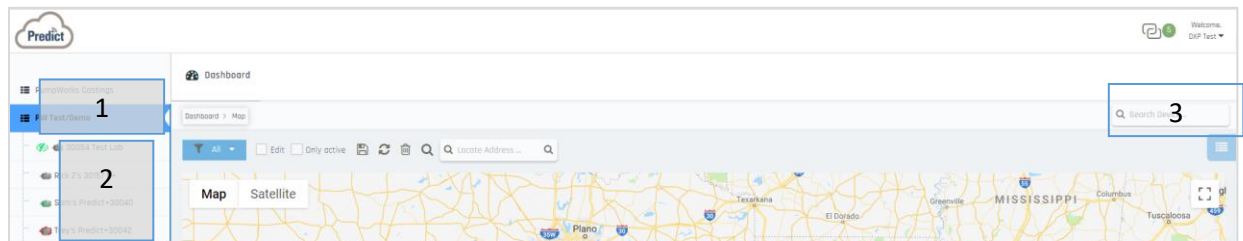

Figure 4
The Predict-Cloud main dashboard (Figure 4) shows a map view of your devices and a list of the accounts you can access. By clicking on an account, you can view a list of the devices under that account. From this dashboard screen you can select which account to view (1), select which device to view (2), and search by device ID number (3).